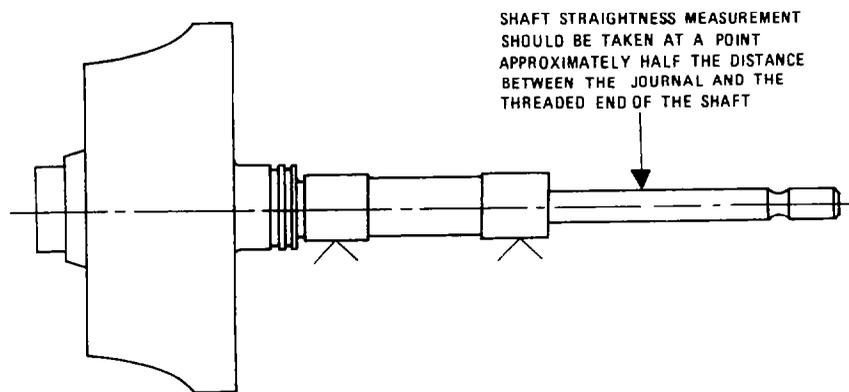
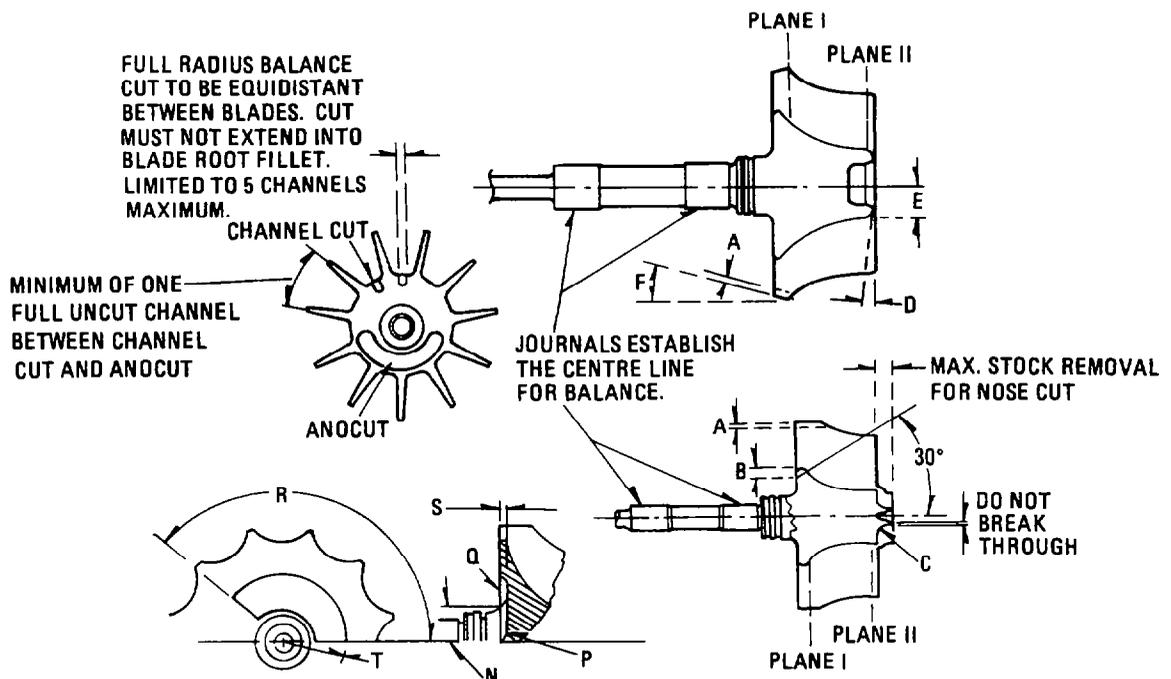

Fig. 145 — Turbine Wheel Assembly
Fig. 146 — Turbine Wheel Assembly Balance Planes and Stock Removal Limits
Check the turbine wheel assembly using the method shown in fig. 145. The shaft must be straight within 0.013 mm (0.005 in.), if it is not and cannot be straightened, it **MUST** be replaced! Also check the balance of the turbine wheel assembly. Refer to Table 7 and fig. 146 for balance specifications. If necessary, correct the assembly's balance by removing stock with a grinder. Refer to Table 7 and fig. 146 for stock removal limits. Clean up burrs around the area of stock removal before measuring the balance each time. After completion of the balancing operation, repeat the fluorescent penetrant inspection. Apply water-displacing fluid (PX112) to the turbine wheel assembly to protect the shaft from corrosion.
(Use with Fig. 146)**
- c. Straighten a bent shaft on the turbine wheel assembly using the method shown in fig. 145. If the shaft cannot be straightened to meet the pertinent specifications shown in para. 59, it *must* be replaced.